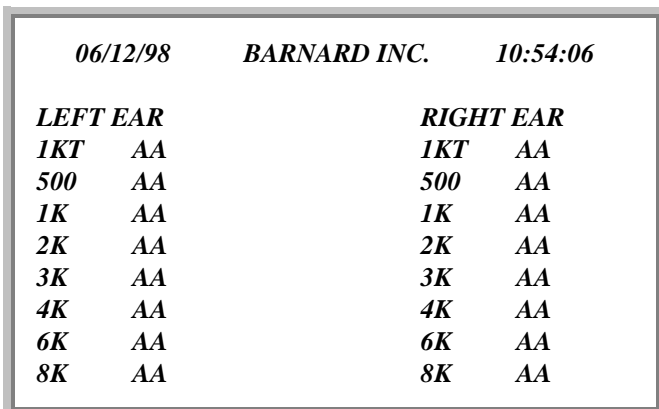

Figure 5-2 RA500 Main Test Screen
1. Make sure you are in the Main Test screen (See **Figure 5-2**. RA500 Main Test Screen on page 5-1).